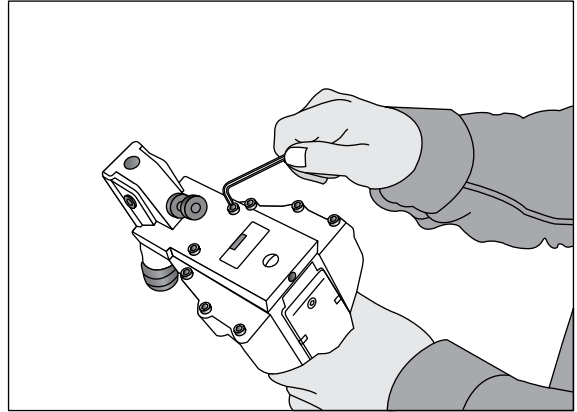

Figure 6
1. Loosen front 2 screws with a 4 mm Allen wrench. (See Figure 6)